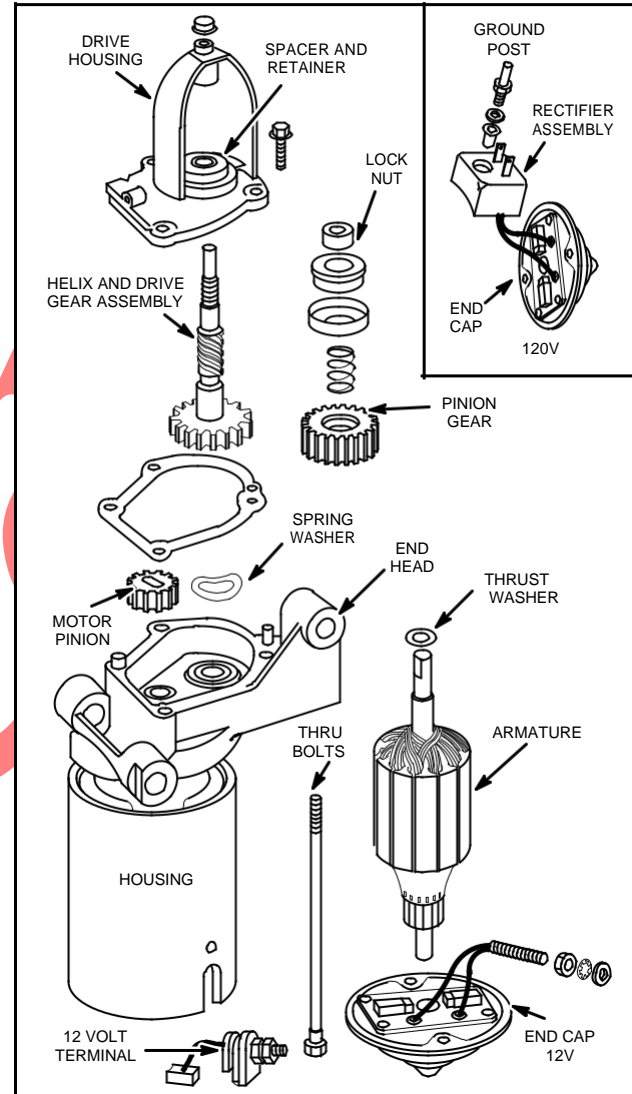

Fig. 664 – 12V & 120V STARTER MOTOR, EXPLODED VIEW
1. Remove drive housing from end head, Fig. 664.
1. Study Fig. 664 prior to starter motor disassembly.